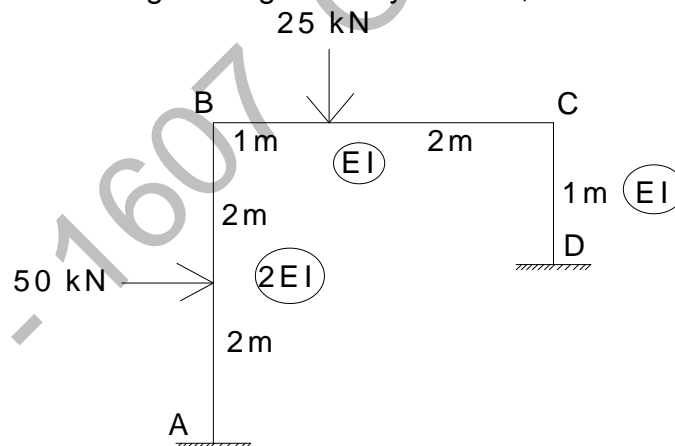

fig.5
- 15 Analyse the frame shown in fig.5 using flexibility method, and draw BMD